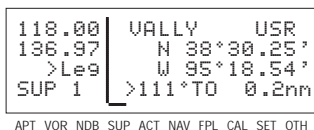

Figure 4-78
5. Press **ENT**. The SUP 1 page for your new waypoint will be displayed with its latitude and longitude (figure 4-78). The cursor is turned off automatically.